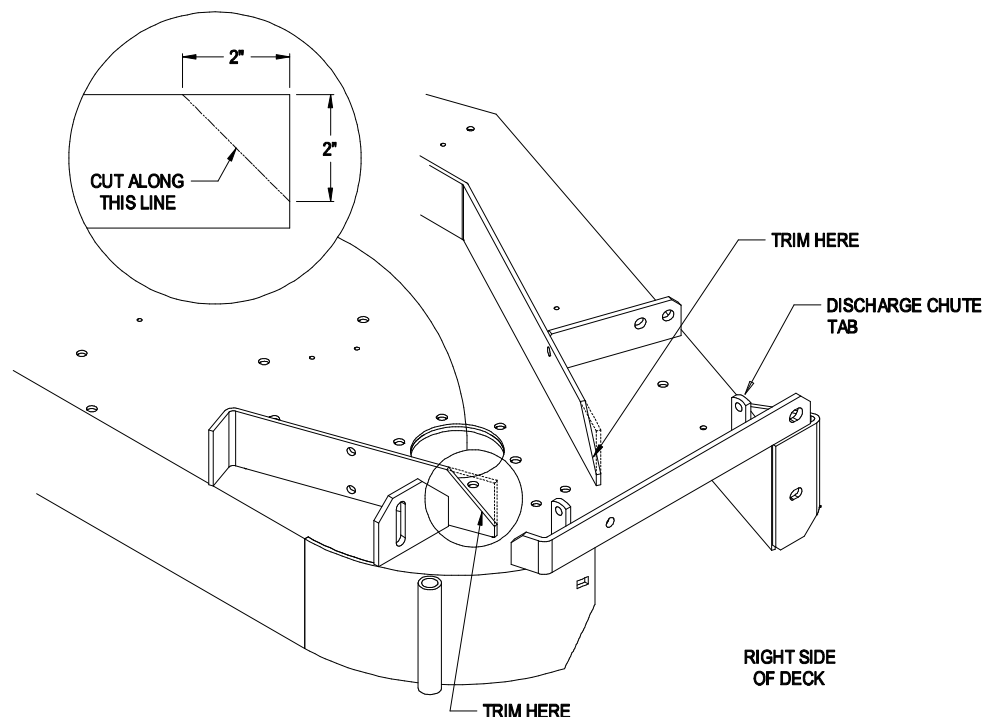

FIGURE 6
- b) **If you are mounting the Ultra Vac on a Lazer Z HP with serial number 220,000 or higher, skip to step c).** For Lazer Z HPs with serial numbers 220,000 and lower, locate and cut off the corners of the right deck reinforcement plates by measuring 2" down from the top and 2" from the outside as shown in Figure 6. (This step provides the required belt clearance.)